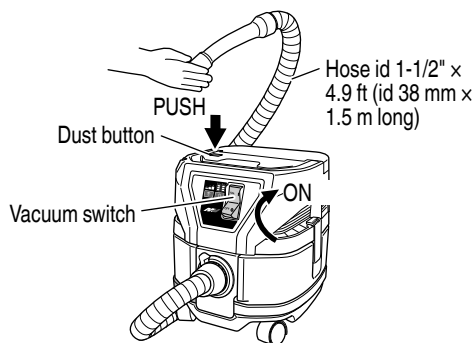

Fig. 19
- (1) Pull out the zoom pipe on the tip of the hose.
- (2) Block off the tip of the hose with your hand and turn the power switch ON. Next, press the dust button on the top of the head for approximately one second and release the button. Repeat three times and the suction power should recover. (Fig. 19)